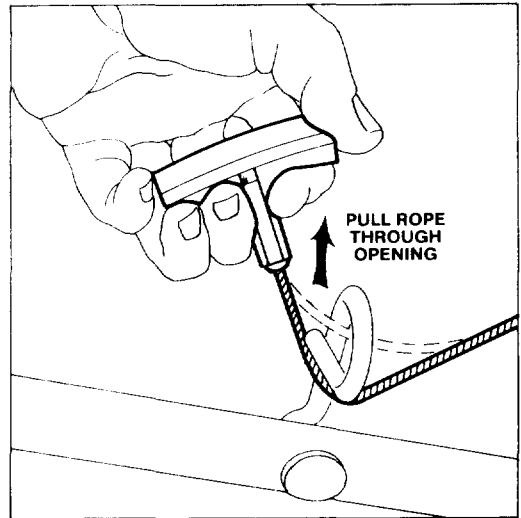
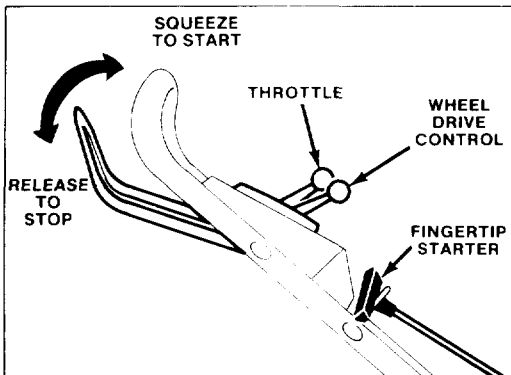

Figure 3
Figure 7
3. **STARTER ROPE** (Fig. 3) — Pull starter rope through opening in rope guide. By squeezing control bar (Fig. 7) against handle, blade brake will release and allow rope to be pulled easily up to rope guide.
1. **CONTROLS** (Fig. 7) — Wheel drive control throttle, blade control bar and fingertip starter are on upper handle.
2. **STARTING** (Fig. 7) — Push wire onto spark plug. Move wheel drive control to **DIS-ENGAGE** and throttle control to **CHOKE**. Hold control bar against handle. Pull fingertip starter and regulate throttle as required when engine starts.
3. **SELF-PROPELLING** (Fig. 7) — Move wheel drive control to **ENGAGE**. Front wheels will now drive mower. For maneuvering and making turns, push down on handle to raise front wheels slightly off grass. Move control to **DISENGAGE** detent to stop front wheel drive.
4. **STOPPING** (Fig. 7) — Release control bar to stop engine and blade. Pull wire off spark plug if mower is unattended or not used.